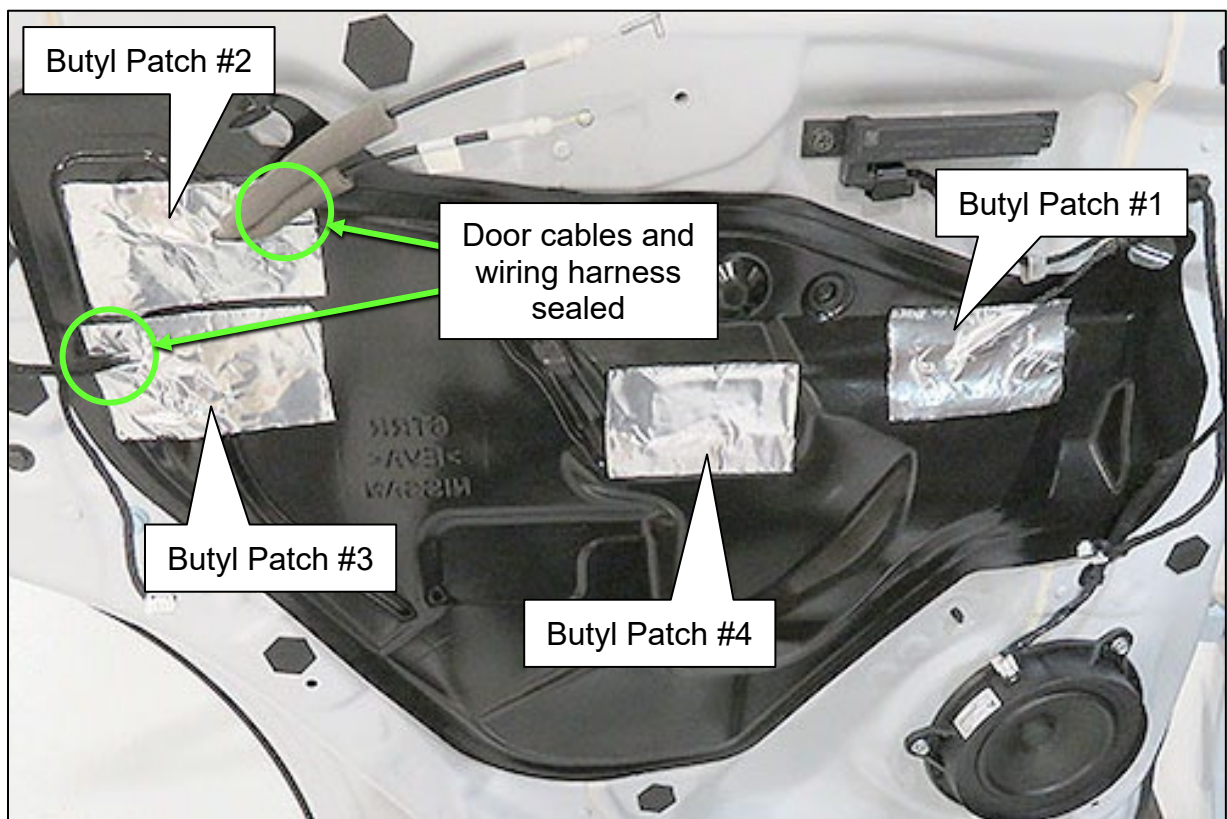

Figure 36
- This patch will be Butyl Patch #2. Placement is shown in Figure 36 on page 18.
- This patch will be Butyl Patch #3. Placement is shown in Figure 36 on page 18.
45. Peel the tan protective cover (Figure 5 on page 3) away from the adhesive of Butyl Patch #2, and then carefully apply it to the door seal surface, as shown in Figure 36.
46. Peel the tan protective cover away from the adhesive of Butyl Patch #3, and then carefully apply it to the door seal surface, as shown in Figure 36.
47. Peel the tan protective cover away from the adhesive of Butyl Patch #1, and then carefully apply it to the door seal surface, as shown in Figure 36.
48. Peel the tan protective cover away from the adhesive of Butyl Patch #4, and then carefully apply it to the door seal surface, as shown in Figure 36.